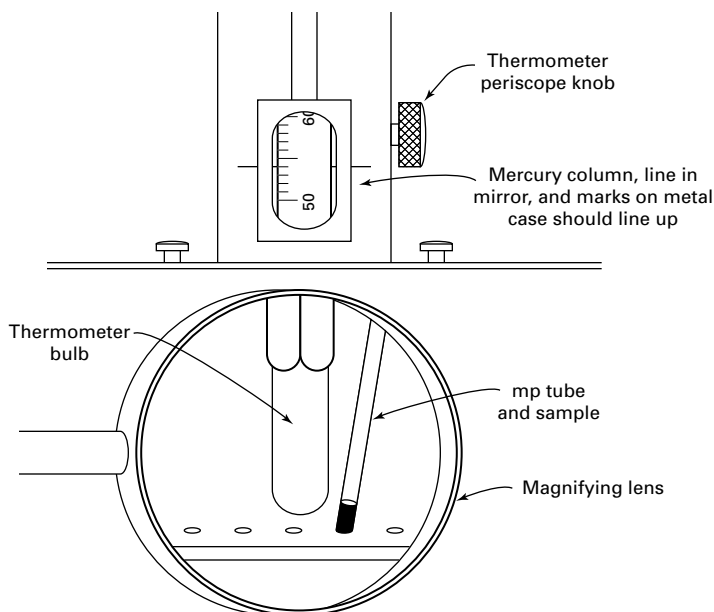

FIGURE 12.8 Reading the temperature.
13. When the first crystals *just start to melt*, record the temperature. When the *last crystal just disappears*, record the temperature. If both points appear to be the same, either the sample is extremely pure or the temperature rise was *too fast*. If you record the temperature with the horizontal index line in the mirror matched to the lines etched on both sides of the periscope window and the top of the mercury thread at the same time, you'll be looking at the thermometer scale head-on. This will give you the smallest error in *reading* the temperature (Fig. 12.8).